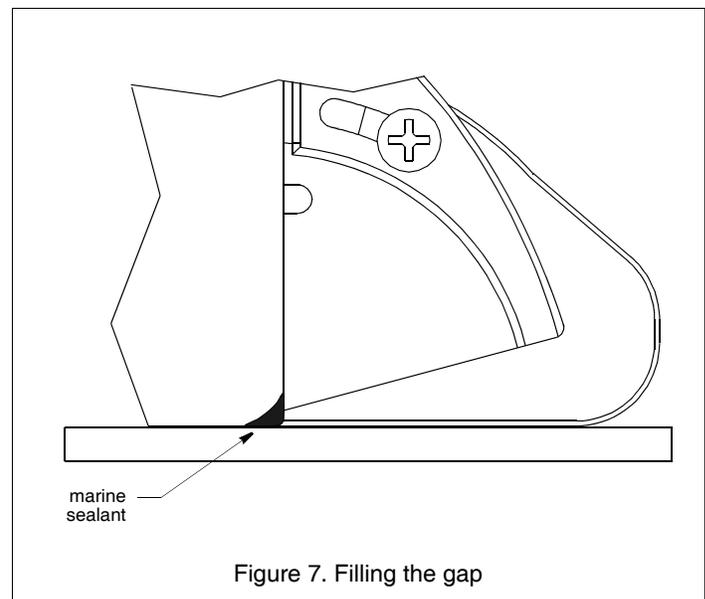

Figure 7. Filling the gap
2. Fill the gap between the sensor and the hull with marine sealant using a putty knife for smoothing (see Figure 7). Pay particular attention to the transition from the hull to the adjustable paddlewheel assembly. This will ensure smooth water flow over the paddlewheel.